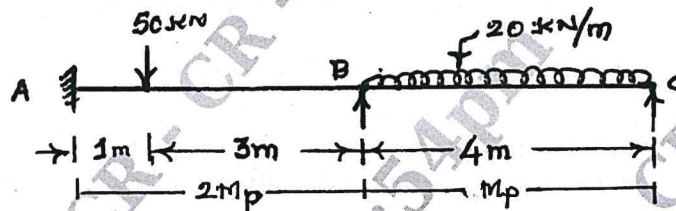

Fig.Q2(b)
b. Determine the maximum plastic moment for the beam shown in Fig.Q2(b). Take load factor as 1.5.